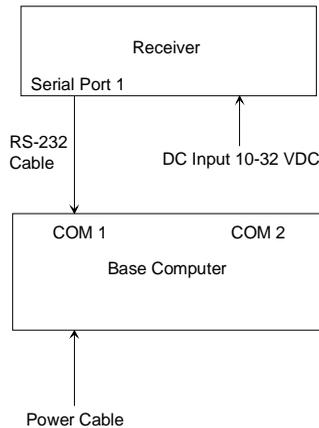

Figure 4.4. Cabling for Downloading
1. Connect one end of the power cord to a power source (generally a battery pack) and the other end to the POWER connection on the back of the receiver (Figure 4.4). Use either POWER connector.